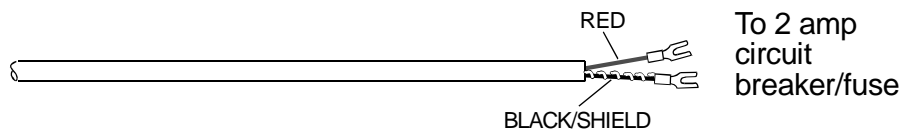

Figure 8: Power Cable
- q Using the wire cutters and wire strippers, prepare the power source end of the cable as shown in **Figure 8** below.
- q Using **Figure 8**, Plug each AMP connector onto the proper mating pins on the board.
- q To ensure proper fitting of top cover, route cables as shown in **Figure 8**.